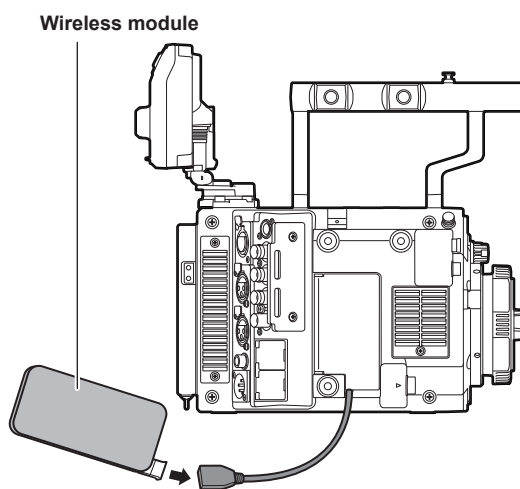

Fig. 4
- 4** Connect the wireless module. (Fig. 4)